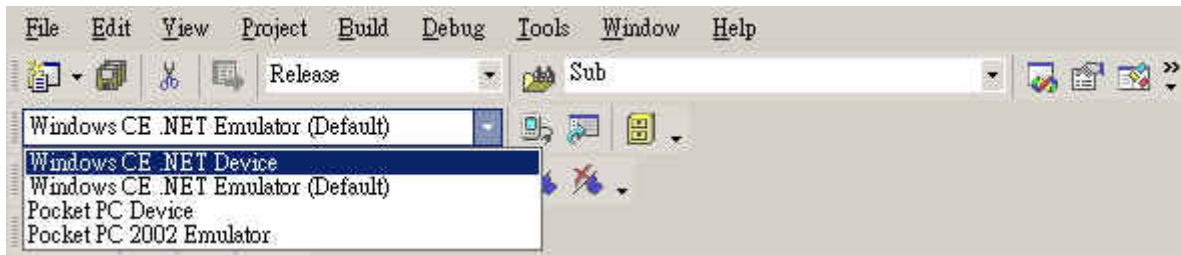

Fig. 5-2-16
2. In the toolbox menu select “**Windows CE .NET Device**” from the Deployment Device Combo box. (see Figure 5-2-16)